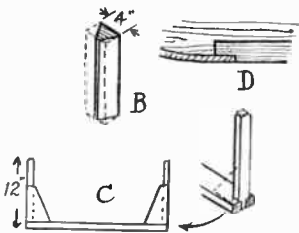

Fig. 2—Details of the stem post and frames and the method of letting in the ply bow pieces
Mark the length and at the distances indicated by dotted lines, square pencil lines across. On these lines the frames are to be fixed in due course. At the stem end a post is to be fitted, as at (A). This is cut to 12 ins. long from a piece of 3 ins. by 4 ins. timber, and is shaped up as shown at (B) in Fig. 2. Fix this in position, truly central and vertical, with screws from underneath. Now cut the long sides of the vessel, which run the whole of the straight portion of the bottom. Slope the top edge, as in the side view, and at the front edges saw and chisel out a rebate 1 in. wide and as deep as the thickness of plywood to be used for the curved ends of the boat.
the sides level with the rebate. Say the rebate is $\frac{1}{4}$ in. deep, and the wood sides $\frac{1}{2}$ in. thick, then the cutaway strips will be $\frac{1}{4}$ in. wide, and extend to the stern. This will allow the plywood portions, when fitted on, to come level with the sides, as in detail (D) in Fig. 2. Lute the edges of the bottom with the paint, and nail the sides firmly to them.
Four wood frames are now to be made. These are made to the same dimensions each, and shown at (C) in Fig. 2. The bottom strips are 1 in. by 2 ins., and